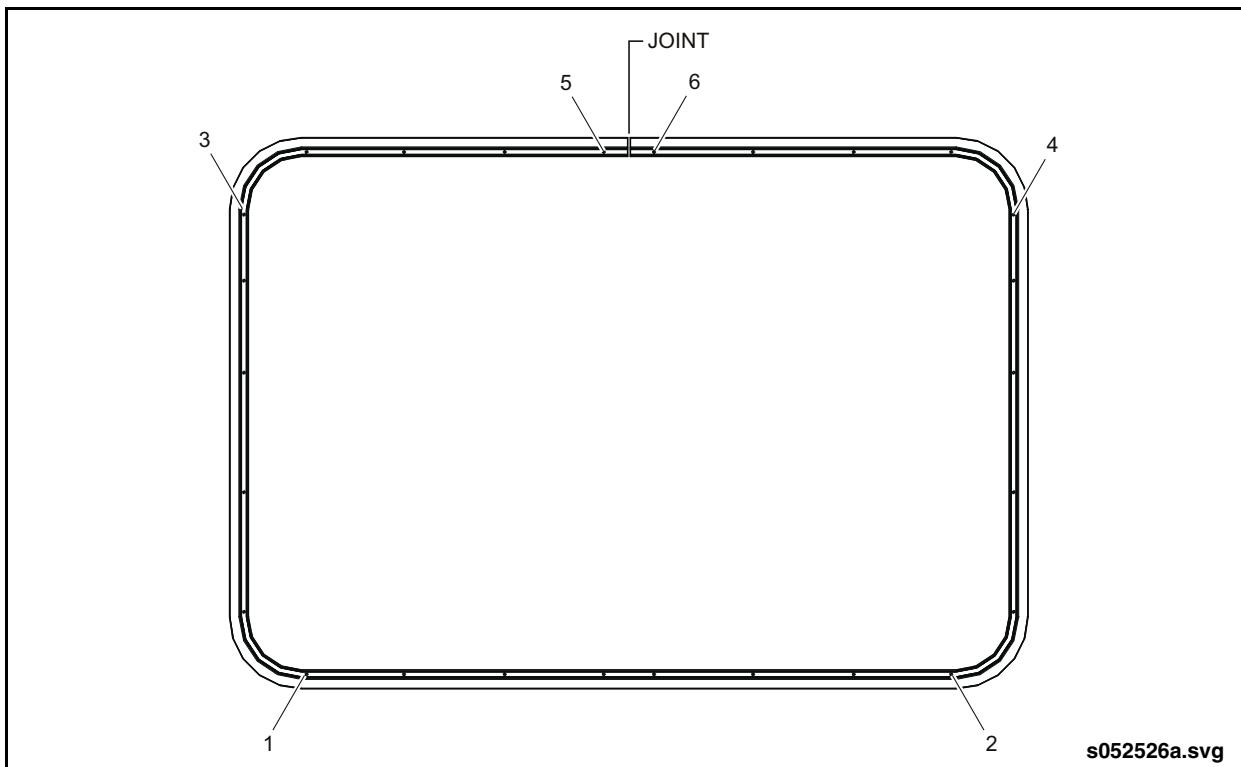

Fig. 14-27: Initial Screw Tightening Sequence
5. Install the first six screws in the locations shown and apply an initial torque of 20 in-lb. in the sequence shown. See “Fig. 14-27: Initial Screw Tightening Sequence” on page 34.